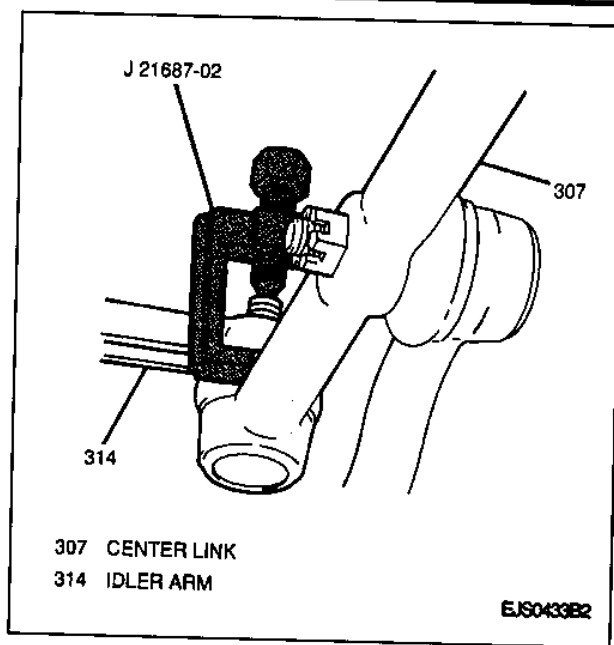

Figure 13—Separating Idler Arm From Center Link
3. Idler arm from center link, using a J 21687-02 (Figure 13).